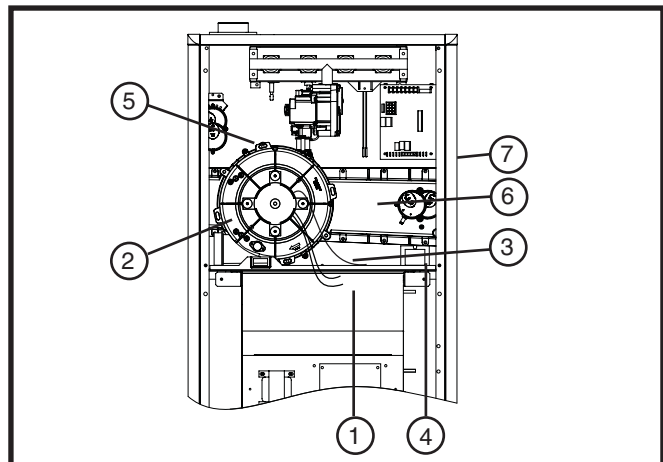

Figure 16. Inducer Assembly Rotation
- Disconnect the electrical harness (1) from the inducer assembly (2). See Figure 16.
- Remove the inducer assembly ground wire (3) from the blower deck (4) or door.
- Remove four screws (5) securing the inducer assembly (2) to the header box (6).
- Rotate the inducer assembly (2) to its new position.